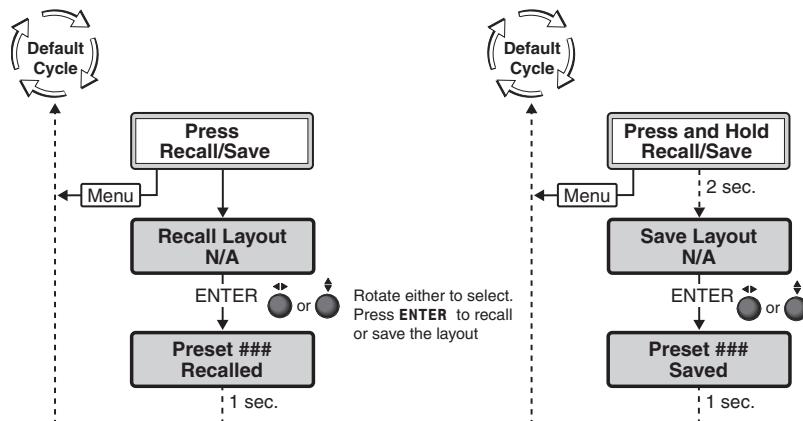

Figure 22. Recall/Save Menu
1. Press the **RECALL/SAVE** button (see figure 22) to go to the Recall Layout menu.